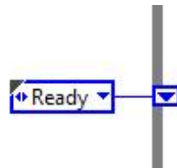

FIGURE 2.7 Wiring the state control to the shift register.
3. Right-click on a blank space in the diagram and choose **Select a VI...** From the dialog that pops up, select the new control you just created (it will have the extension .ctl), and wire it as in Fig. 2.7, so that the first state the machine enters is the Ready state.